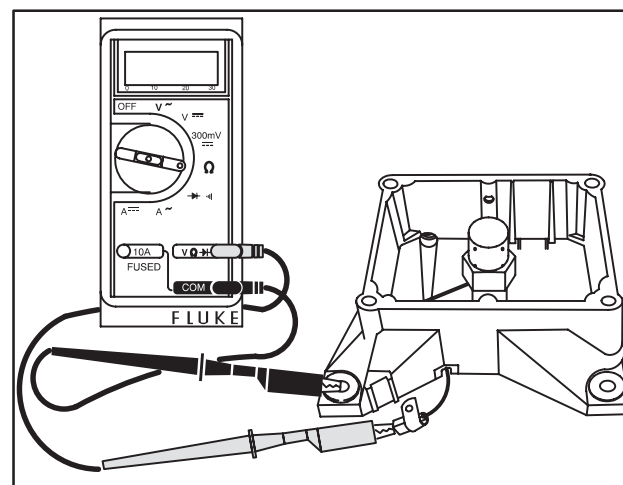

Fig. 26 – Oil Gard® Sensor Test
5. Connect one meter lead to sensor wire and other meter lead to ground, Fig. 26.